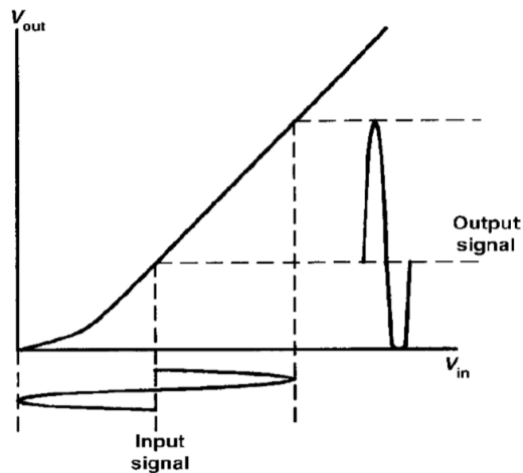

Figure 1.22 Effect of reducing bias and increasing input signal amplitude (the output waveform is no longer a faithful reproduction of the input)
- Fig. 1.22 shows the effect of moving the bias point down the transfer characteristic and, at the same time, increasing the amplitude of the input signal.